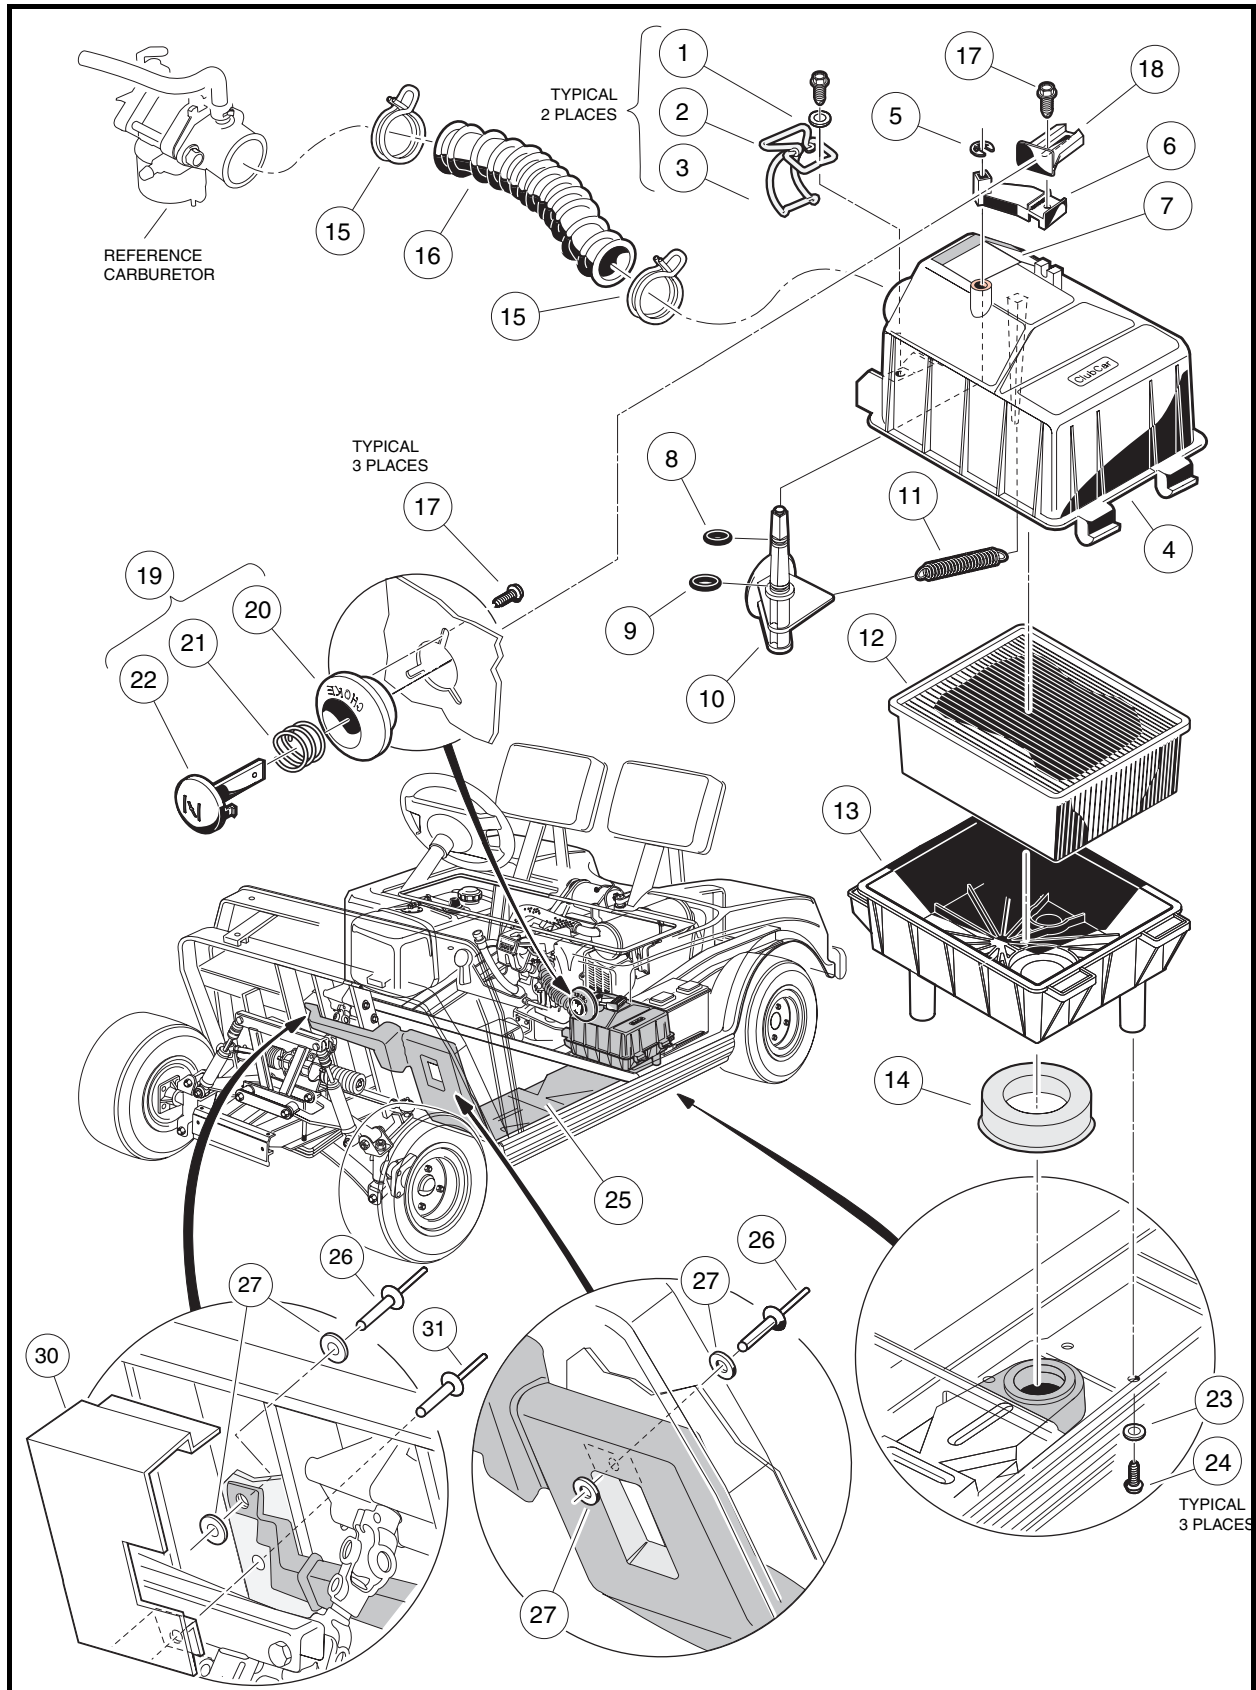

Figure 14-10 Air Intake and Choke Assemblies
1. Remove the mounting screws (17) from the back side of the choke. Remove the choke assembly from the vehicle body (**Figure 14-10, Page 14-14**).
1. Position the choke assembly (19) on the vehicle body. Install the mounting screws (12) from inside the vehicle body and tighten to 18 in-lb (2.0 N·m) (**Figure 14-10, Page 14-14**).
2. Check for proper operation. If the choke button does not adequately engage the choke lever (6), loosen the #12 screw (17) and adjust the choke lever (18) on the choke lever (6) (**Figure 14-10, Page 14-14**). Move the lever toward the choke button to increase choke engagement and away from the choke button to reduce choke engagement.
3. Remove the air intake box from the vehicle by removing intake hose (16) and three screws (24) and washers (23) that mount the intake box to the vehicle (**Figure 14-10, Page 14-14**).
1. Check to be sure the intake seal (14) is seated correctly (**Figure 14-10, Page 14-14**). The seal fits tightly onto the bottom side of the air box. If seal is not in place, moisture will enter the air intake system.
2. Place the air box assembly into vehicle and install three flat washers (22) and screws (23) from underside of air box mounting plate into air box (**Figure 14-10, Page 14-14**). Tighten to 33 in-lb (3.7 N·m).
4. Drill out the pop rivet (31) securing the bottom of the air duct shield (30) to the floorboard (**Figure 14-10, Page 14-14**).
6. Drill out the two pop rivets (26) securing the intake duct to the floorboard (**Figure 14-10, Page 14-14**).
7. Remove three screws (24) and flat washers (23) from the bottom of the air box assembly.
2. Secure the front of the duct to the underside of the floorboard with two pop rivets (25) and flat washers (26) (**Figure 14-10, Page 14-14**).
3. Install the air duct shield (30).
- 5.1. Position steering joint assembly (1) on vehicle as shown. Install three lock washers and three bolts and tighten to 15 ft-lb (20.3 N·m) (**Figure 14-10, Page 14-14**).
1. Lift two latches (3) on the side of the air box (**Figure 14-10, Page 14-14**).
2. Remove the hose clamp (15) from the air hose and remove hose from the air box assembly.
3. Standing on driver side of vehicle, grasp air hose mounting inlet and open box fully. Remove filter element (12).
6. Fasten wire latches (3). Make sure latches securely engage the bottom half of the box. **See following CAUTION.**
7. Install hose (16) and hose clamp (15) (**Figure 14-10, Page 14-14**). If equipped with screw clamp, tighten to 17 in-lb (1.9 N·m). Make sure clamp ends are located in the 12:00 o'clock position.